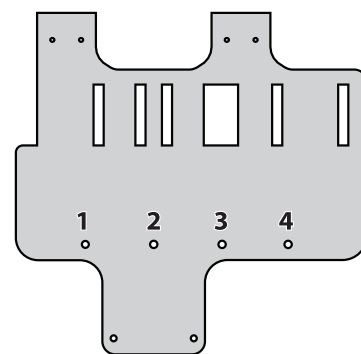

Figure 6
- Using Figure 6 and the chart below, locate the correct mounting hole location on the mounting bracket for your tractor: